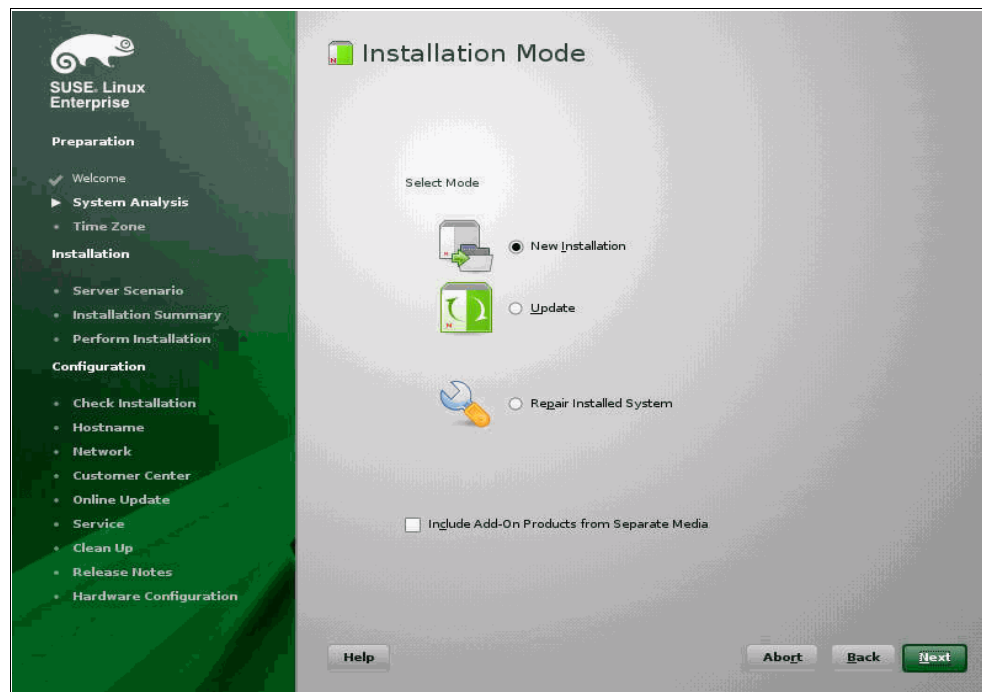

Figure 3-55 SUSE New installation option
10. Select the **New Installation** option to proceed with the installation for SAN Boot, as shown in Figure 3-55.